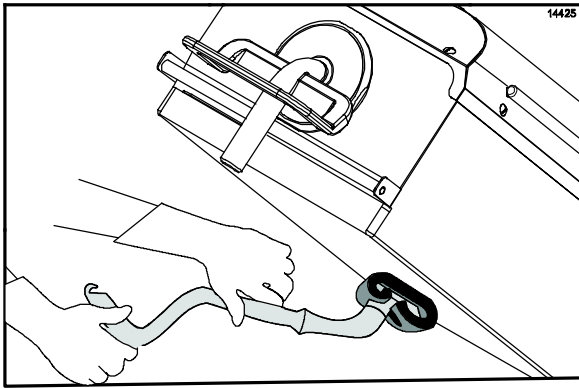

Figure 50
17. Apply the grill cleaner to the platen surfaces, starting from the right platen to the left platen. (See Figure 50.)